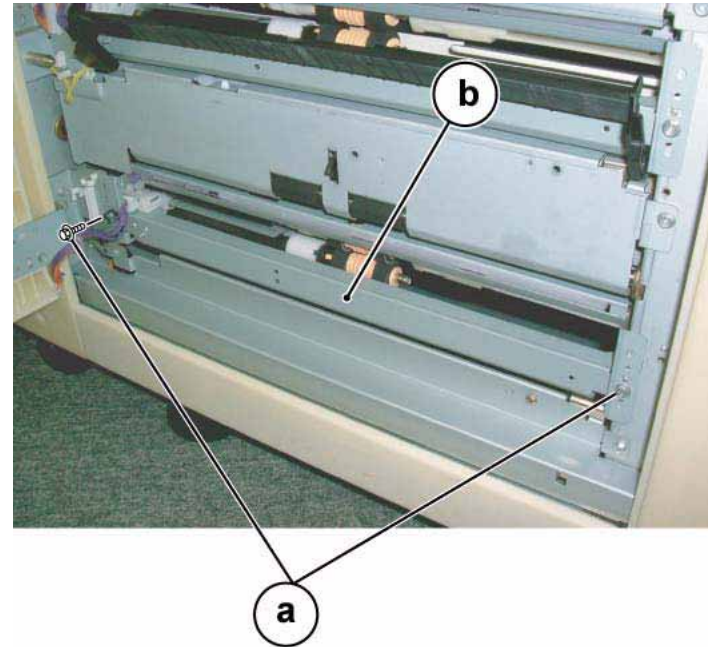

**Figure 3 Removing the Feed Out Chute**
8. Remove the Feed Out Chute to make it easier to remove the feed assembly. **Figure 3**